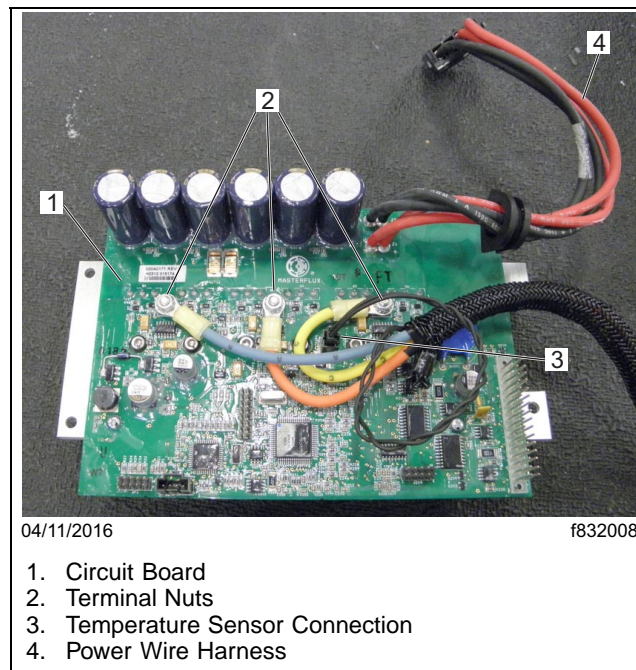

Fig. 13, Circuit Board Wiring
13. Remove the terminal nuts, and disconnect the three phase-wires from the circuit board terminals. See **Fig. 13**.
17. Connect the three phase-wires of the new harness to the circuit board terminals as shown in **Fig. 13**. Install the blue wire on the left terminal, the orange wire on the middle terminal, and the yellow wire on the right terminal. Carefully tighten the nuts 10 to 14 lbf-in (113 to 158 N-cm). Do not over tighten or under tighten.